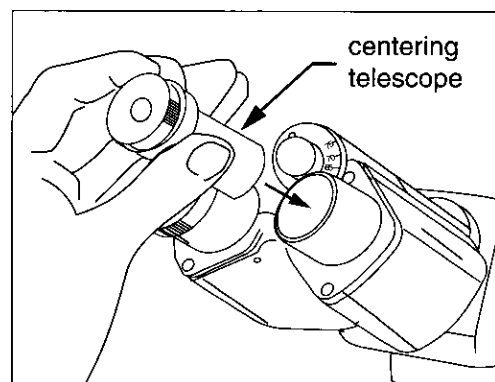

Figure 2
2. Remove the right hand eyepiece and insert the provided centering telescope. (Fig.2) Then, rotate the 10x objective into place along with the corresponding 10X-20X condenser annulus.